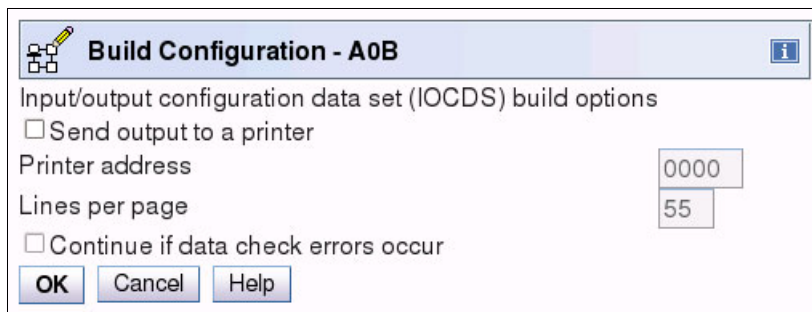

Figure 6-136 HMC - SAIOCP: build options
16. Select the build options you want and click **OK** (Figure 6-136).